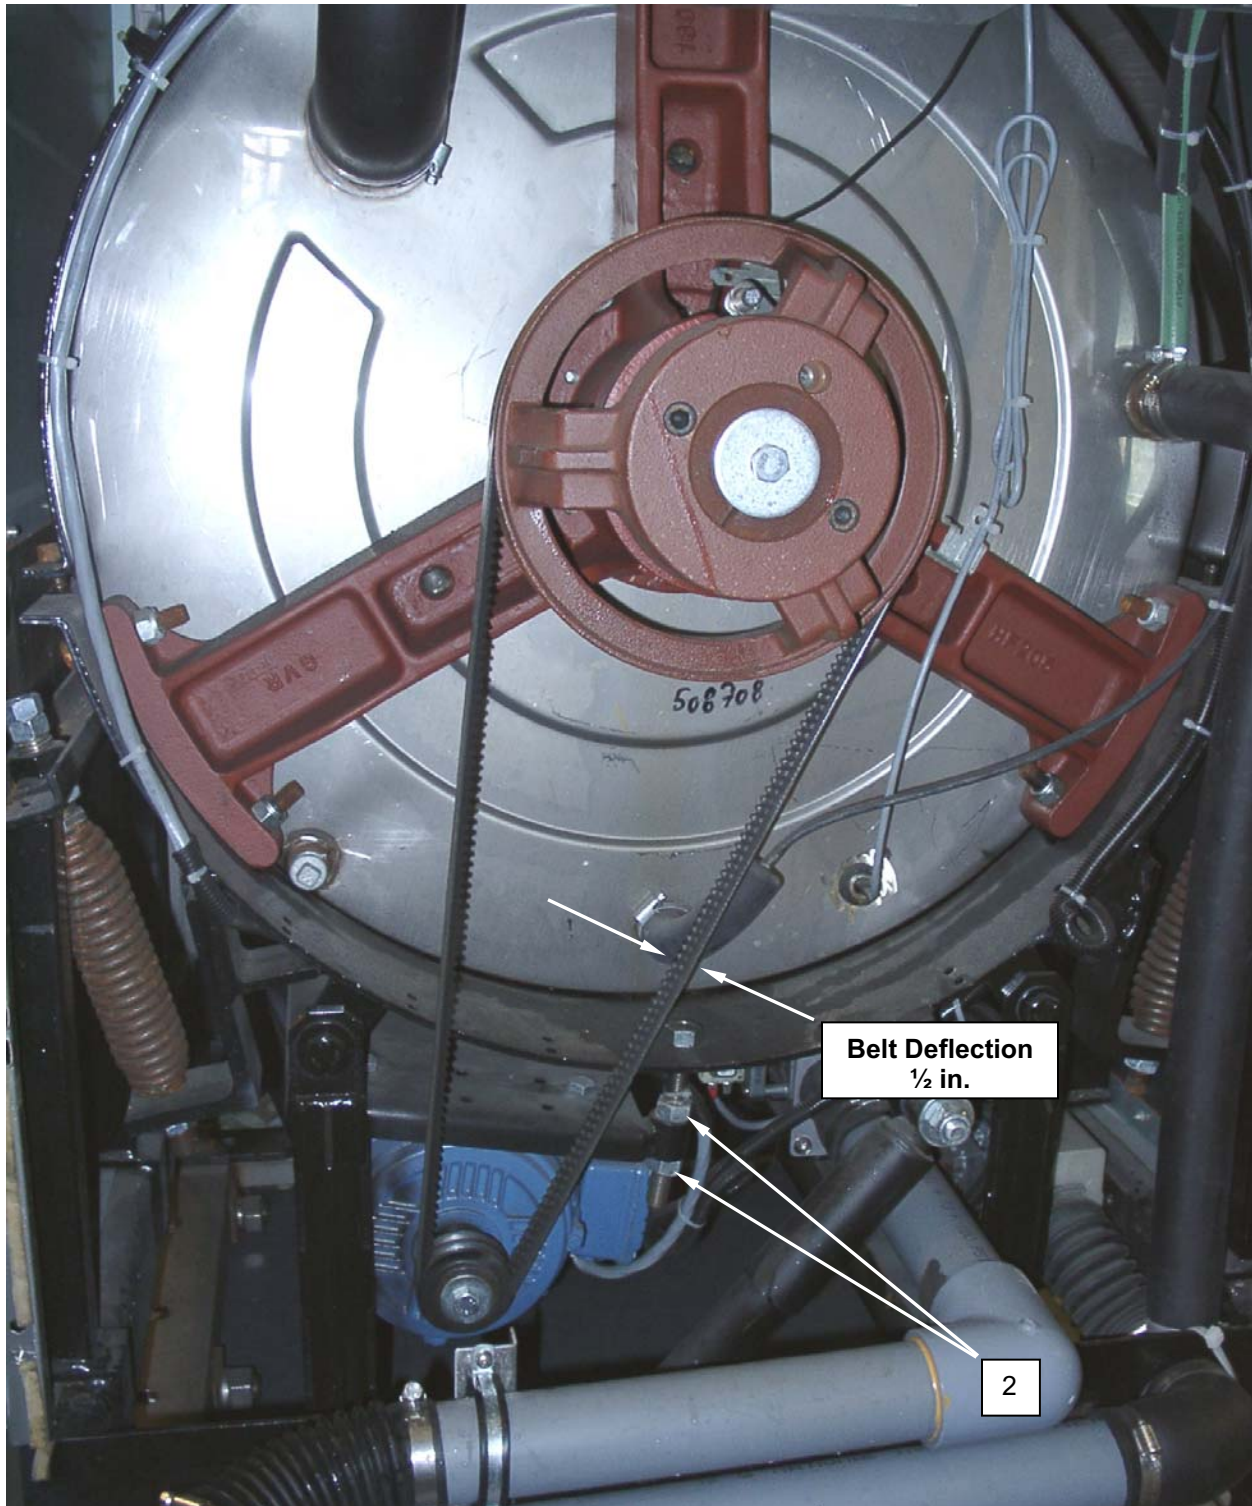

Figure 2. Adjust the Washer Drive Belts.
2. Adjust and tighten locknuts on adjustment bolt (**Figure 2, Item 2**) as necessary.